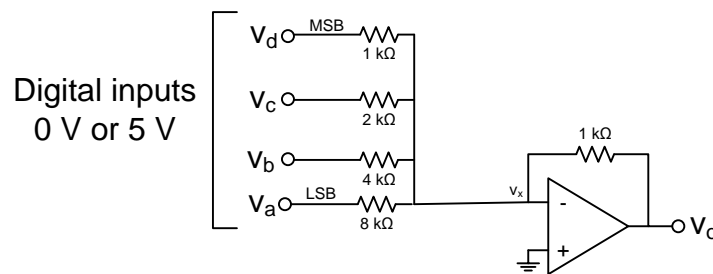

Figure 3: DA converter using summing op-amp.
- (c) Show that the output voltage v_o of the DA converter shown in Figure 3 is equal to:
- (d) What is the resolution of the DA converter shown in Figure 3?